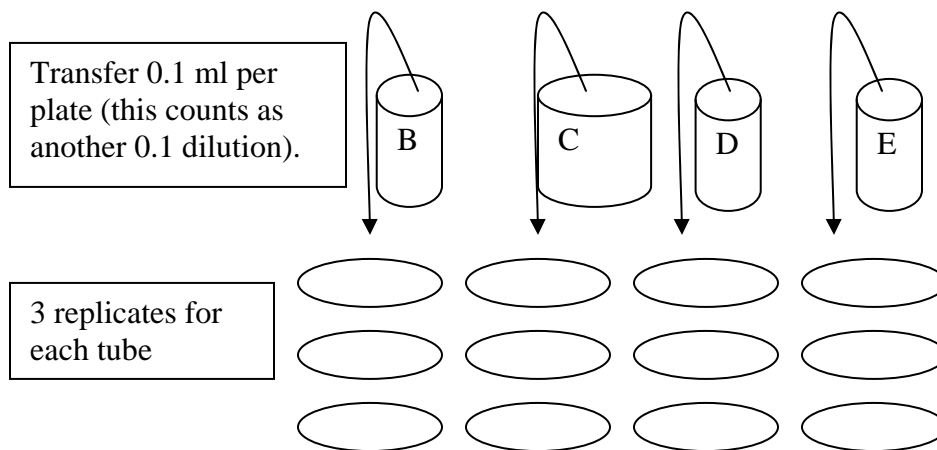

Figure 2. Spread plating
1. Obtain 12 plates of media, 1 p-100 pipettor, 1 yellow box tips, 1 glass spreader, some ethanol, and 1 glass Petri dish. See figure 2 for assistance.